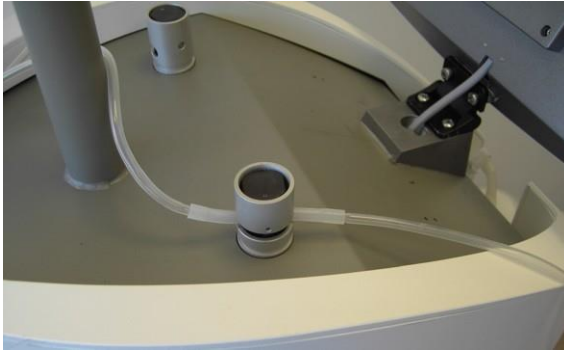

Figure 3-65. Extraction Tube Inserted into the Left Electrovalve
21. Release the electrovalve and verify that the tube is properly inserted into its slot, as shown in Figure 3-65.